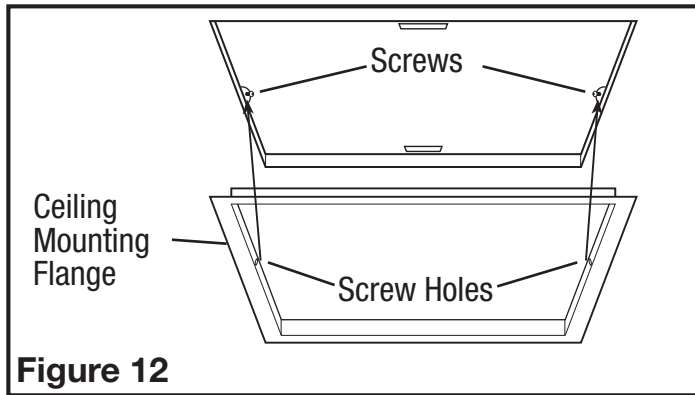

Figure 12
NOTE: If the mounting flange is installed on the fan housing, remove the two screws that connect the ceiling mounting flange to the housing and set aside (**Figure 12**).
4. Install the ceiling mounting flange to cover any gaps which exist between the housing and the finished ceiling. Put sealant (not provided) on inside edge of the ceiling mounting flange to ensure that the flange is sealed to the ceiling. Line up the screw holes in the ceiling mounting flange with the screw holes on the inside of the housing and press flange in place so it is tight against the ceiling. Reinstall ceiling flange mounting screws inside the housing (**Figure 12**).